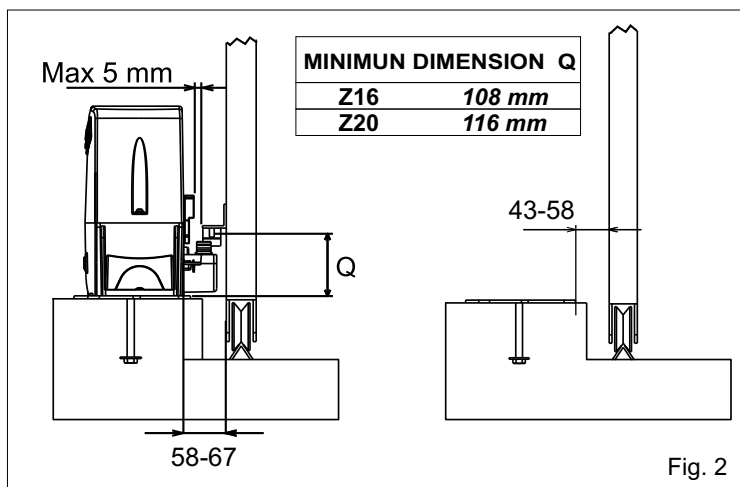
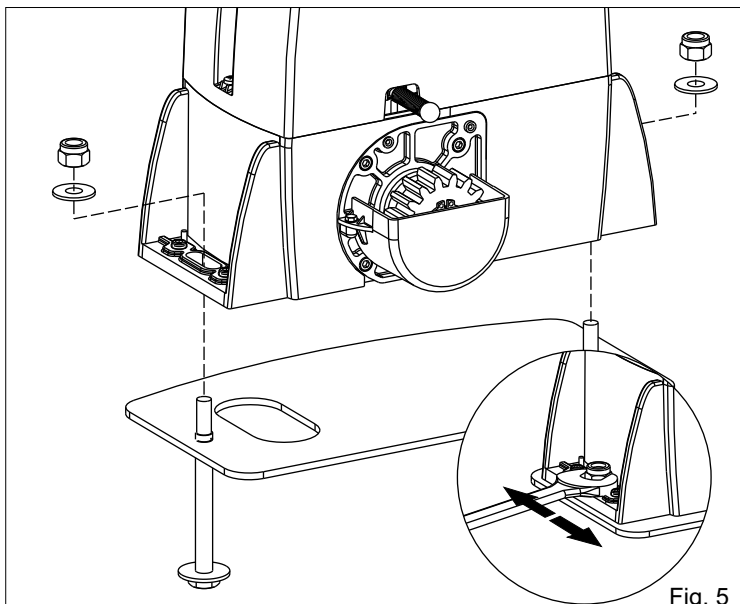

Fig. 2
Fig. 5
2.3. Before concreting in the plate, make sure that it is perfectly leveled and that the distance of 50-55mm as shown in Fig. 2 is respected.
4.2. Fix the motor reducer to the foundation plate with the 2 included nuts, adjusting the side position (Fig. 5) so to respect the shown quota in (Fig. 2).